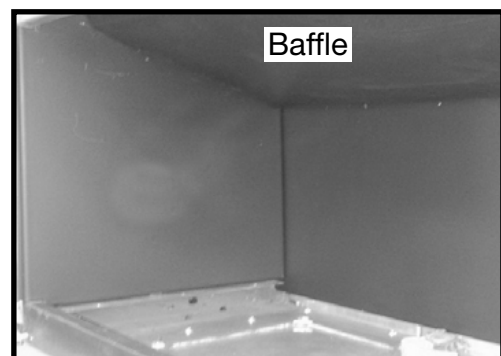

Figure 43: Baffle mounts.
4. To hold panels in place, install the baffle, from the burner kit, by resting the back flange on top of the back panel and use three screws to secure the front of the baffle to the top of the firebox, seen in Figure 43.